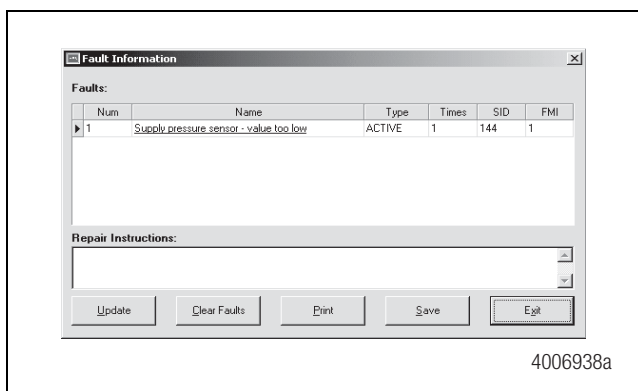

Figure 5.6
2. Select **Display Faults** from the pull-down menu. All active and stored faults are displayed. Figure 5.6.